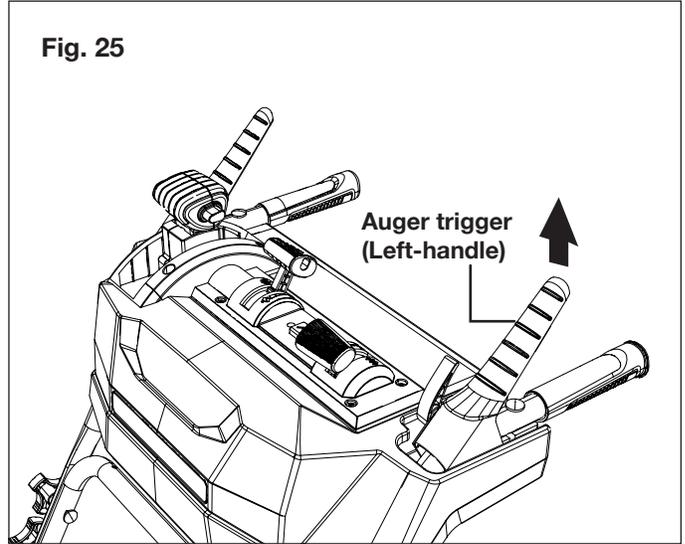

Fig. 25
1. Release the auger trigger. Drive motor and auger will both stop (Fig. 25).